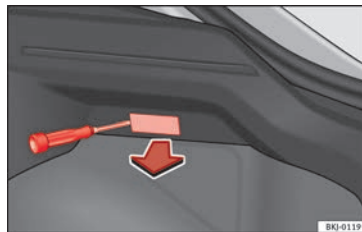

Fig. 122 Boot light.
- Extract the bulb by pressing on its inside edge using the flat side of a screwdriver »» Fig. 122.